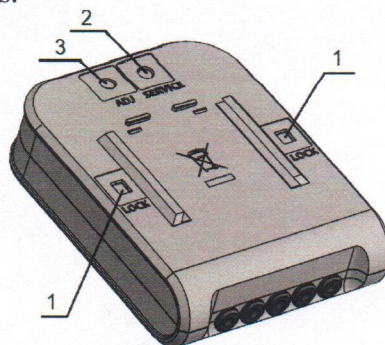

Fig.4. Sealing of the calculator of the thermal energy meter
The newly manufactured complete meter calculator shall not be subject to additional sealing. Access to the calculator cover release latch (Fig. 4, pos. 1), the parameter change and test mode activation contacts (Fig. 4, pos. 2) and adjustment data activation contacts (Fig. 4, pos. 3) is protected by easy break-out screens.
When the abovementioned casing screens are break-out (after opening the calculator casing, changing the meter parameters, adjusting the meter or activation the test mode), open slots are sealed with metrological seal-stickers (Fig. 4, pos. 1 and pos. 3) and with the protective seal-sticker of heat supplier (Fig 4, pos. 2).
Remove the screen „SERVICE“ on the back of the calculator or, if the screen has already broken down, a protective seal-sticker is removed (Fig. 4, pos. 2 of this appendix), or, for a combined device, opens the calculator box. By short-circuiting the contacts „SERVICE“, the SERVICE mode is activated, symbol „<->“ and sign „TEST“ are displayed on the LCD.